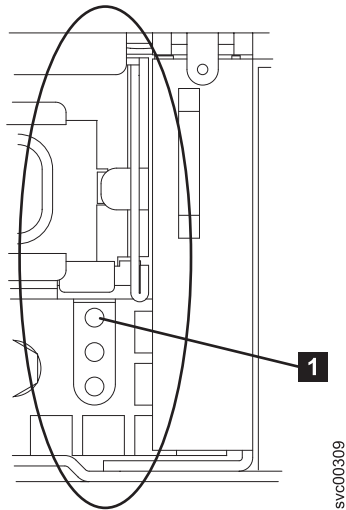

Figure 78. Power LED on the SAN Volume Controller models 2145-8G4, 2145-8F4, and 2145-8F2 rear panel
**Is the rear panel power LED on or flashing?** Figure 78 shows the location of the power LED **1** on the rear panel.